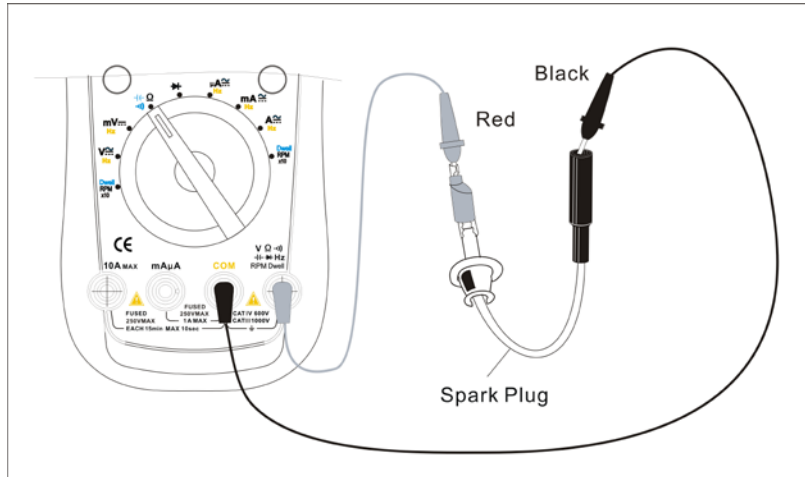

Figure 17
2. Ignition System High-Voltage Damper Testing (see figure 17)